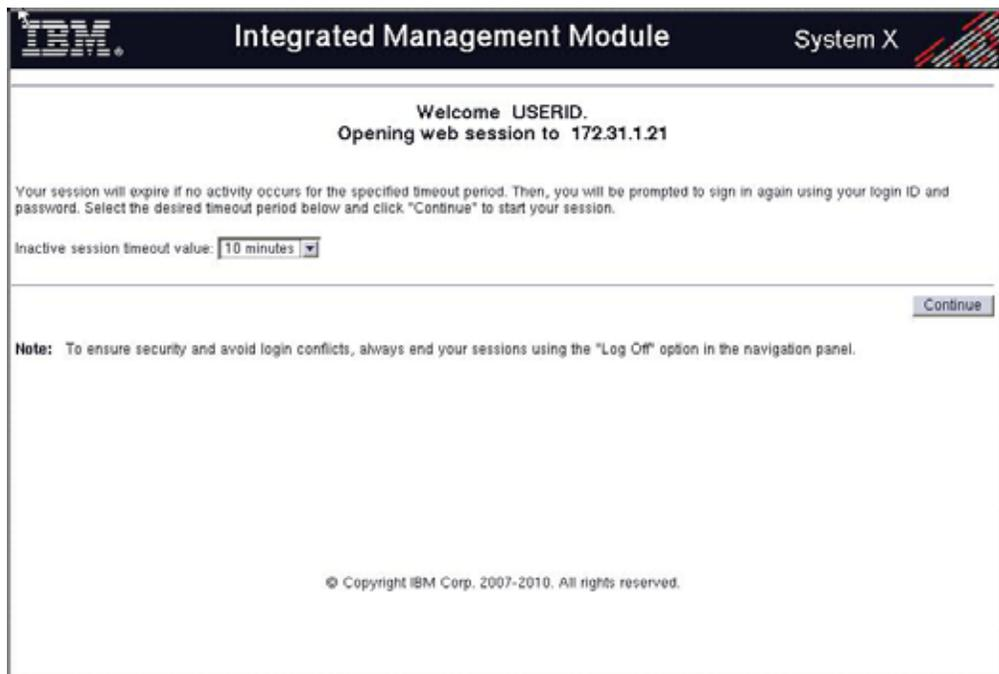

Figure 51. *Integrated Management Welcome window*
- b. Click **Continue**. See Figure 51.
See Figure 51 on page 158.